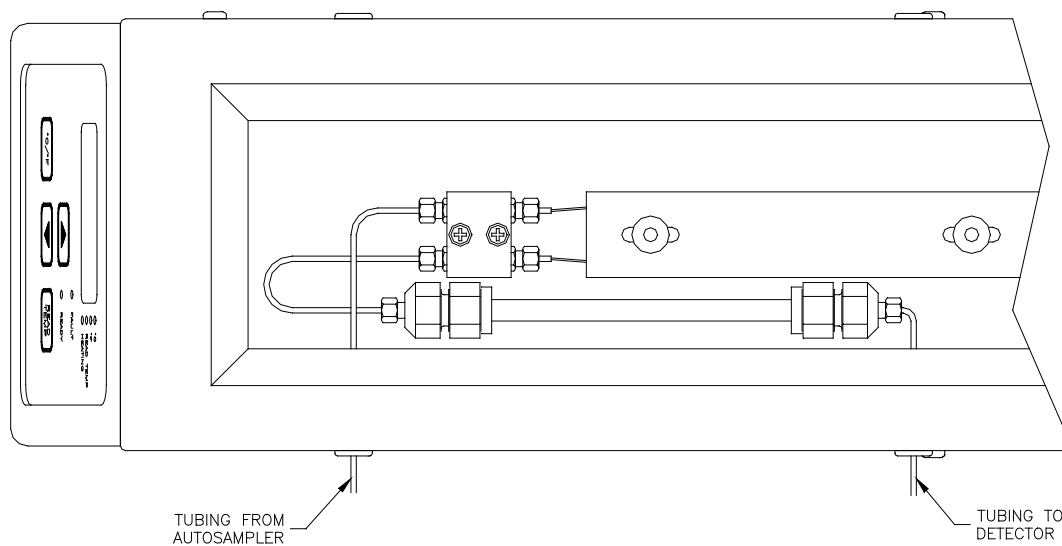

Figure 2-5. Interior view of Oven with Automatic Operation Showing Preheater, Column, and Autosampler Input Line
2. Connect the autosampler output tubing to the inlet of the preheater block (see Figure 2-5).